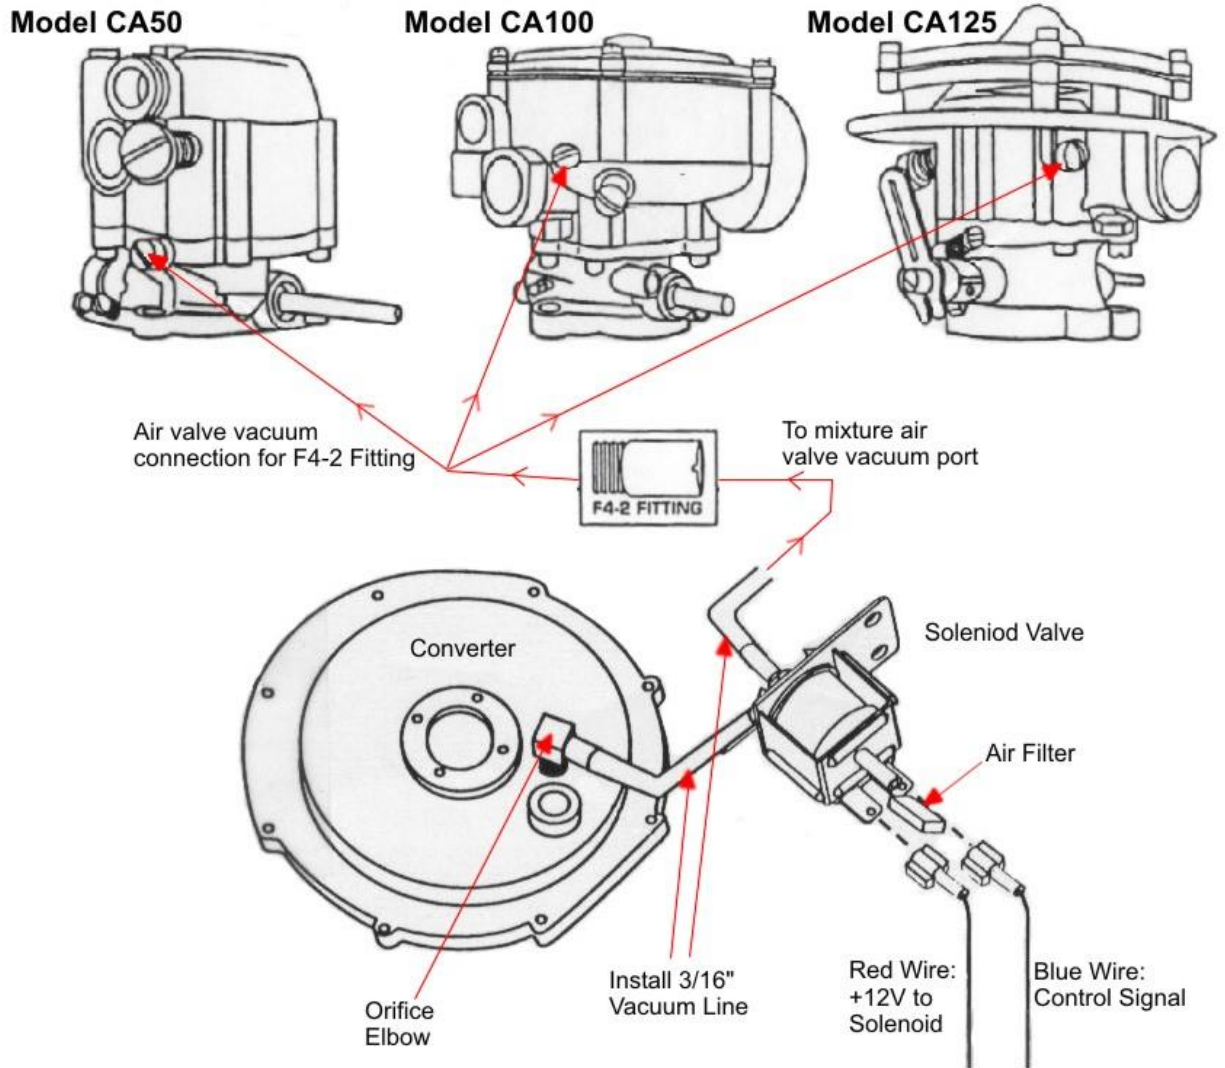

Figure 2: Impco Fuel System installation
If the engine is to be operated in dusty environment, install the foam filter on the air port of the solenoid valve (it is the brass port of the solenoid located in the proximity to the electrical connections, as shown in Figure 2). Making sure that the port opening is not blocked, place a drop of adhesive on the brass port and place the foam filter over the port.
This step involves (1) the installation of the vacuum elbow into the fuel converter/regulator, (2) connecting the elbow with the solenoid valve, (3) installing the vacuum fitting in the mixer and (4) connecting the solenoid valve with the mixer vacuum. Solenoid valve ports are referenced in Figure 2 (on page 10).
(1) Locate the atmospheric vent on the converter; it will either be on the cover (IMPCO, Nolf's) or at the base of the converter (Aisan).
(2) Cut sufficient length of the flexible vacuum hose and connect the vacuum elbow with the plastic vacuum port on the side of the solenoid valve (see Figure 2 on page 10).
(3) Identify a vacuum port in the mixer and install the vacuum fitting.
Cut sufficient length of the flexible vacuum hose and connect the vacuum fitting in the mixer with the remaining plastic vacuum port of the solenoid valve (see Figure 2).